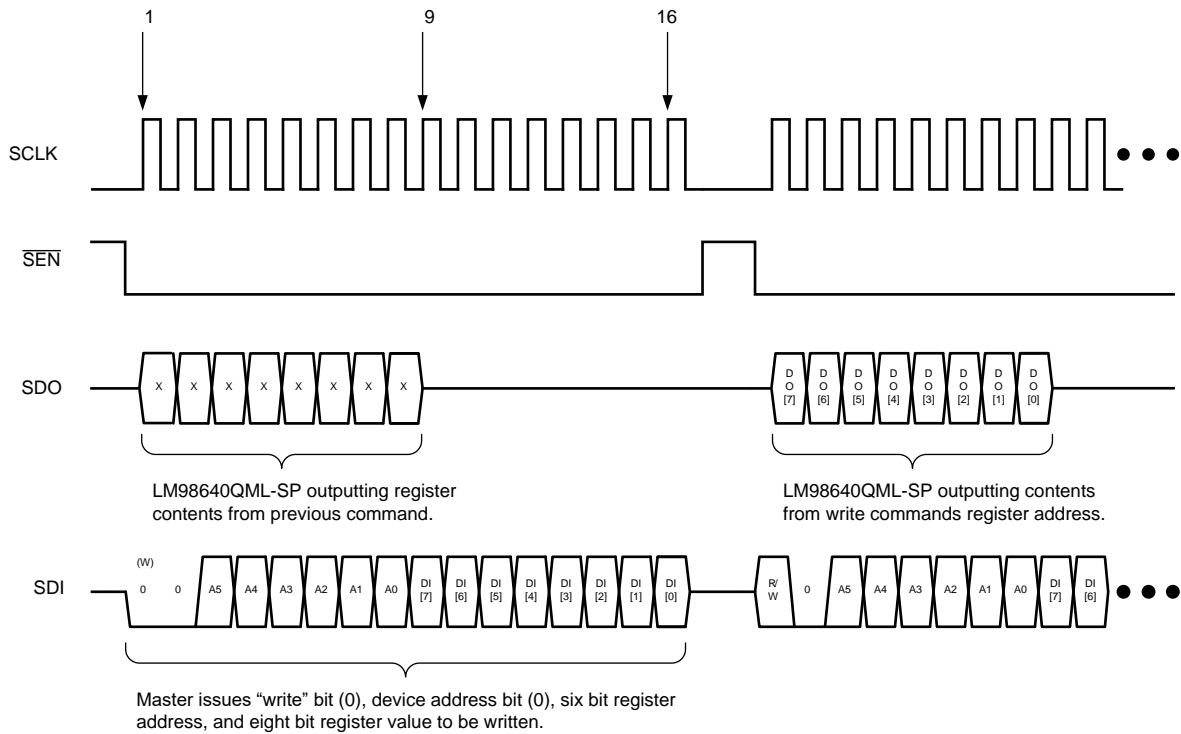

Figure 26. Four Wire Serial Write
To write to the serial registers using the four wire interface, the timing diagram shown in Figure 26 must be met. First,  $\overline{\text{SEN}}$  is toggled low. At the rising edge of the first clock, the master should assume control of the SDI pin and begin issuing the write command. The write command is built of a "write" bit (0), device address bit (0), six bit register address, and eight bit register value to be written. SDI is clocked into the LM98640QML-SP at the rising edge of SCLK. The LM98640QML-SP assumes control of the SDO pin during the first eight clocks of the cycle. During this period, data is clocked out of the device at the rising edge of SCLK. The eight bit value clocked out is the contents of the previously addressed register, regardless if the previous command was a read or a write. When  $\overline{\text{SEN}}$  toggles high, the register is written to, and the LM98640QML-SP now functions with this new data.